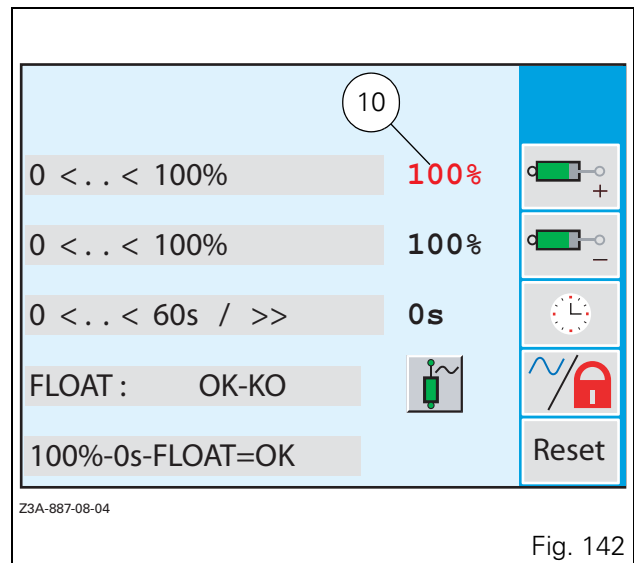

Fig. 142
- Select the rod extension flow rate by pressing the key <<2. The percent flow rate is displayed in red (10 Fig. 142).